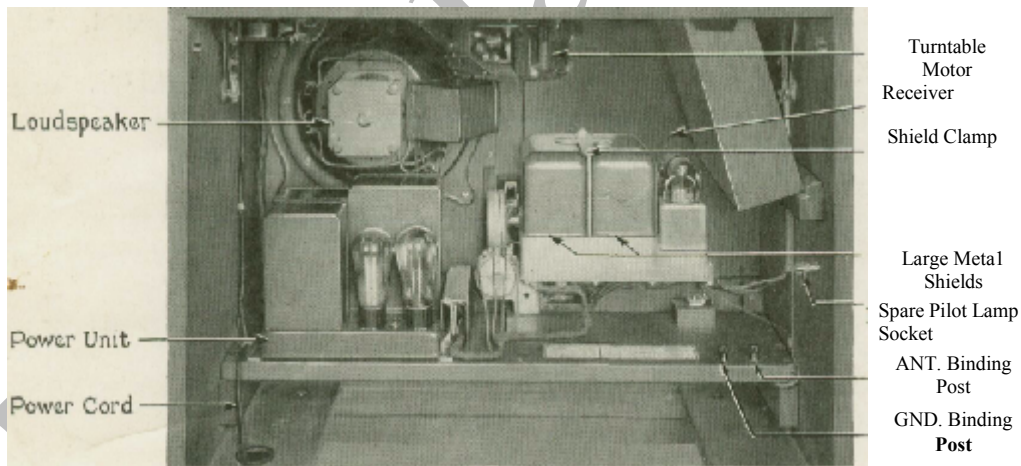
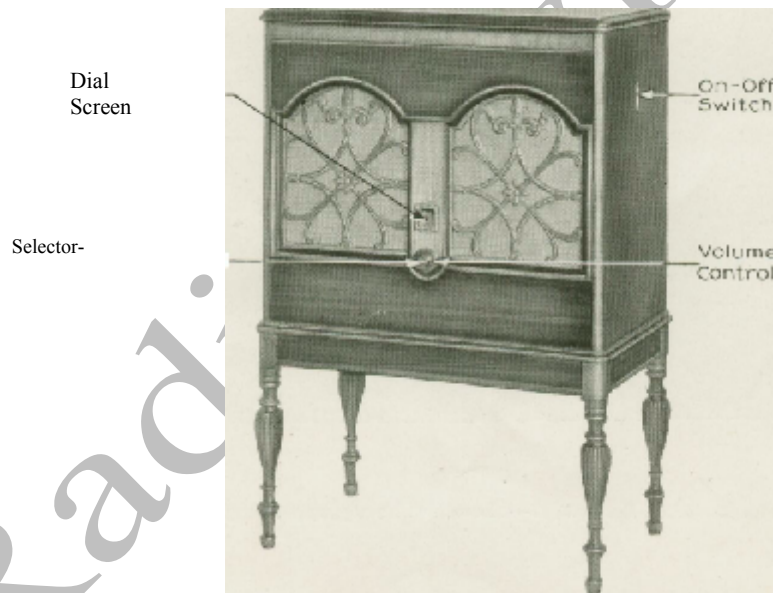

Fig. 2. Rear View of RCA Radiola 47 with Cover Removed
Fig. 4. RCA Radiola 47—Showing Radio Controls
3. Remove the paper wedges from the turntable motor (Fig. 2) so that the disc will rotate freely.
**Power Cord**—Unwrap the power cord and bring it out through the round hole in the bottom of the cabinet, as shown in Fig. 2.
The antenna and ground leads should be of insulated wire, No. 14 gauge or larger. Bring them into the cabinet through the large opening in the bottom. Connect the antenna lead to the "ANT" binding post and the ground lead to the "GND" binding post (see Fig. 2 and 6).
**Loudspeaker**—Make certain that all connections are secure at the loudspeaker terminals (see Fig. 2 and 6).
**Metal Shields and Radiotrons**—Remove the shield clamp (Fig. 2) and lift out the large metal shields. Handle these shields carefully.
Set the On-Off Switch (Fig. 4) to the "ON" position, upward. Make sure that the five Radiotrons are lighted. Snap the On-Off Switch to "OFF".
**Pilot Lamp**—Turn the Selector (Fig. 4) counter-clockwise to the extreme position, so that the pilot lamp mounting will be accessible (see Fig. 3). Remove the socket clamp from the fixed bracket and screw one of the pilot lamps firmly into the socket. Replace the socket clamp on its bracket. Insert the extra bulb into the spare pilot lamp socket. Fig. 2.
Set the On-Off Switch to "ON". With the Selector still in the extreme counter-clockwise position, adjust the socket clamp on the fixed bracket until the zero mark of the scale, projected on the translucent dial screen (Fig. 4), is approximately 1/4 inch below the index pointer. Then switch off the power and replace the rear cover.
Refer to Fig. 4 and proceed as follows: